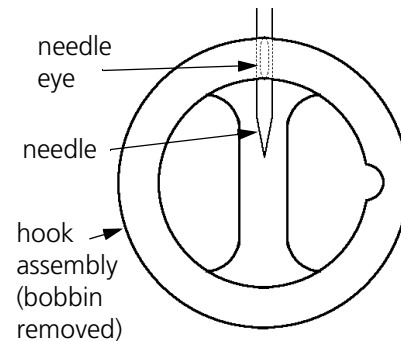

Figure 3-17
18. Look directly into the hook assembly and check the location of the needle's eye compared to Figure 3-17. The eye should be just out of view from the bobbin opening. Therefore, none of the needle's eye should be visible.
20. Slide the needle bar up or down until the eye of the needle is just out of view from the bobbin opening (see Figure 3-17). If you twisted the needle bar, return it to its original rotation before continuing.